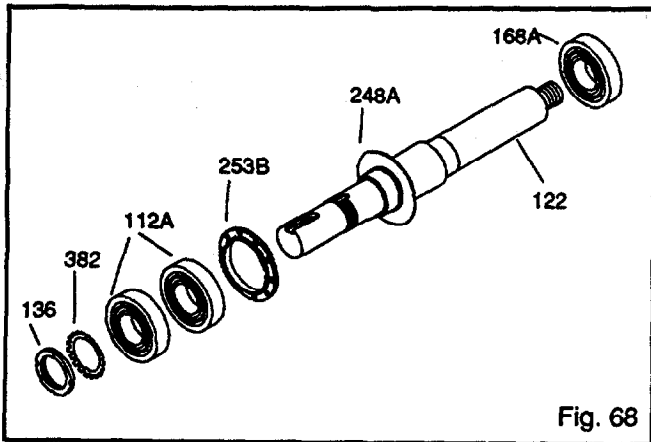

Fig. 68
2. Attach bearing frame foot (241) with bolts (370F). Hand tighten.
3. Install oil flinger (248A) on shaft (122) if removed. (Fig. 68)